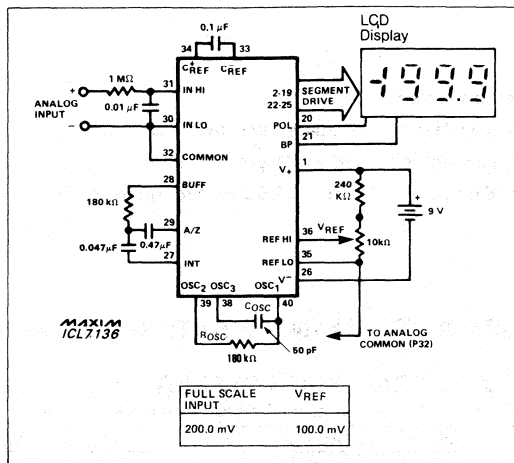

Figure 2. Maxim ICL7136 Typical Operating Circuit
**Note 6:** 48kHz oscillator, Figure 2, increases current by 20 $\mu A$  (typ).